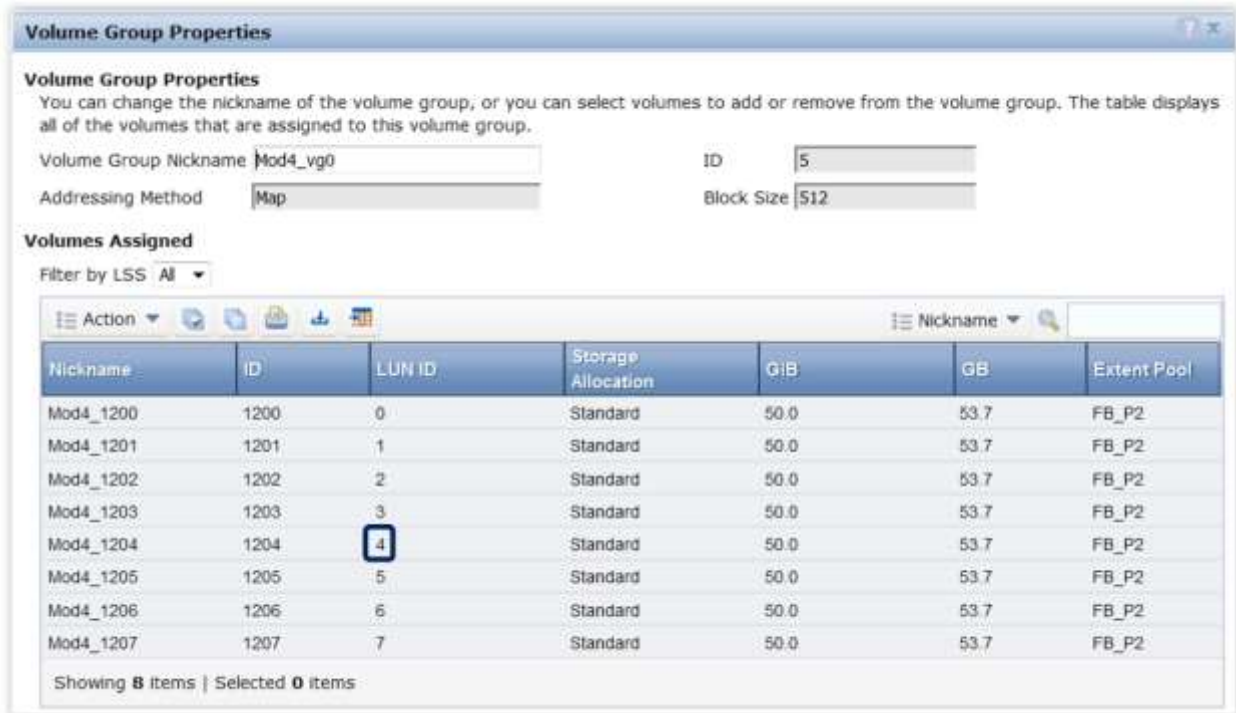

Figure 23: DS8000's Volume Group Properties showing LUN ID
- Ensure the LUN ID on the DS8000, shown in Figure 23: DS8000's Volume Group Properties showing LUN ID, matches the LUN value on the Discover Storage Resources panel, shown in Figure 24: Unified Resource Manager's Discover Storage Resources showing LUN. It is important to note on most, if not all, storage devices (including the DS8000) the LUN ID is *decimal*, while the Unified Resource Manager's LUN ID is *hexadecimal*. A conversion from decimal to hexadecimal is required (e.g. if the DS8000 LUN ID is "10" it will be "0A" at the HMC,